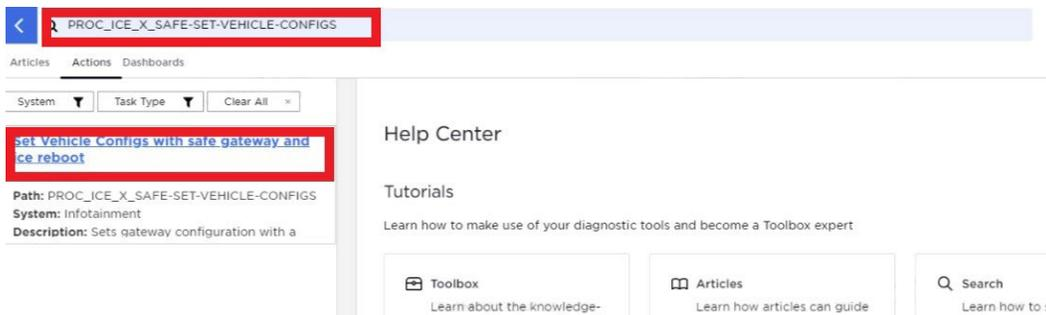

Figure 4
2. In Toolbox, click the **Actions** tab, type "PROC_ICE_X_SAFE-SET-VEHICLE-CONFIGS" (Figure 4).